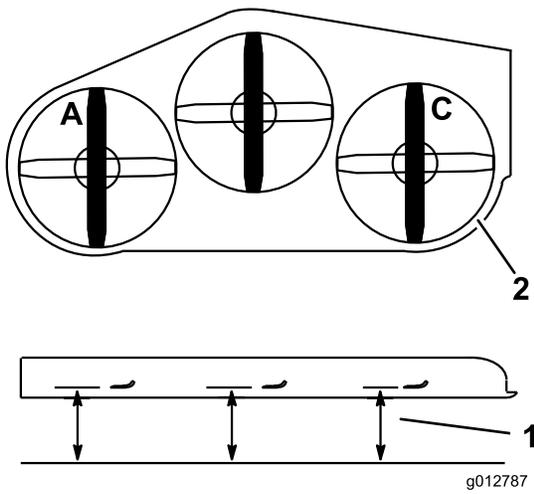

Figure 83
1. Position the left blade front-to-rear (Figure 83).
2. Measure the left blade at the **A** location, from a level surface to the cutting edge of the blade tip and record this measurement (Figure 83).
3. Position the right blade front-to-rear (Figure 83).
4. Measure the right blade at the **C** location, from a level surface to the cutting edge of the blade tip and record this measurement (Figure 83).
2. Position the left blade front-to-rear (Figure 83).
3. Measure the left blade at the **A** location, from a level surface to the cutting edge of the blade tip and record this measurement (Figure 83).
4. Position the right blade front-to-rear (Figure 83).
5. Measure the right blade at the **C** location, from a level surface to the cutting edge of the blade tip and record this measurement (Figure 83).